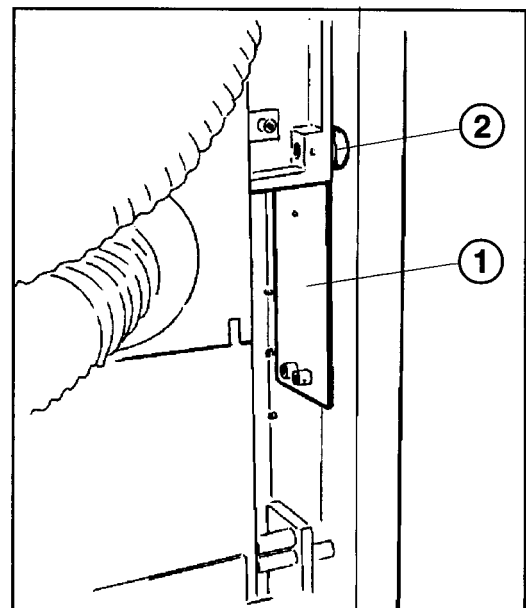

Fig. 8
- Lower the carriage and lock the carriage by means of the transport safeguard (1/Fig.8).
Note: Fit the shaft of the bearing (2/Fig. 8) into the recess of the transport safeguard.